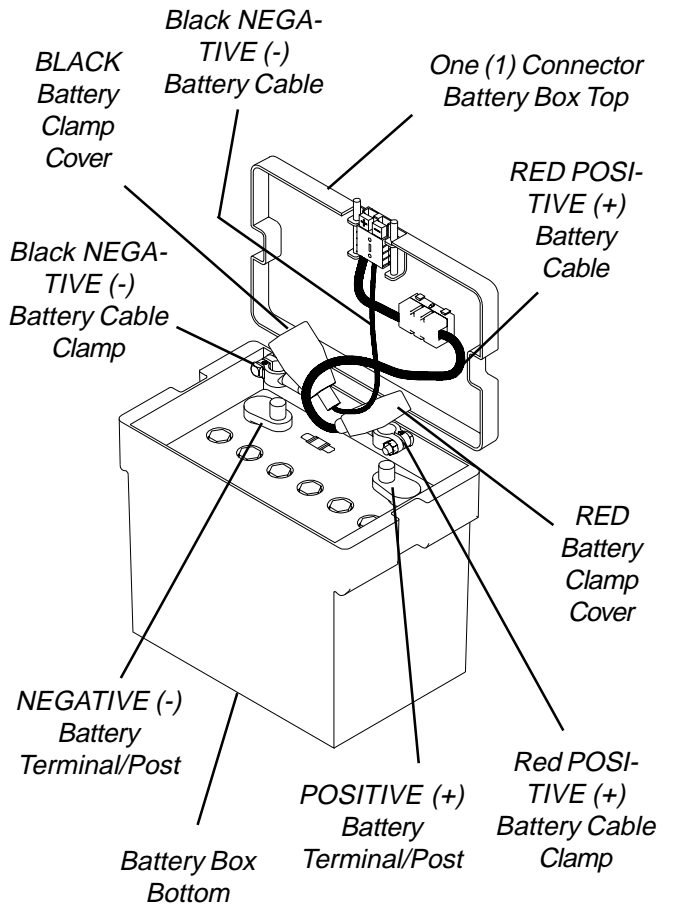

FIGURE 2 - CONNECTING BATTERY CABLE(S) - GROUP 24 BATTERIES
1. Position battery box top next to battery box bottom as shown in FIGURE 2.